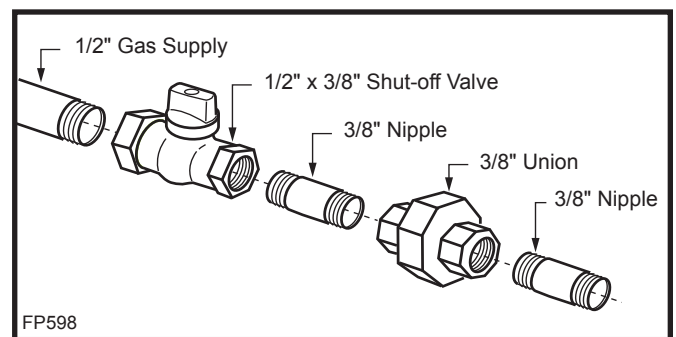

Fig. 8 Typical gas supply installation.
**NOTE:** If flex connector is used, it must be kept inside of the appliance. (Fig. 8)